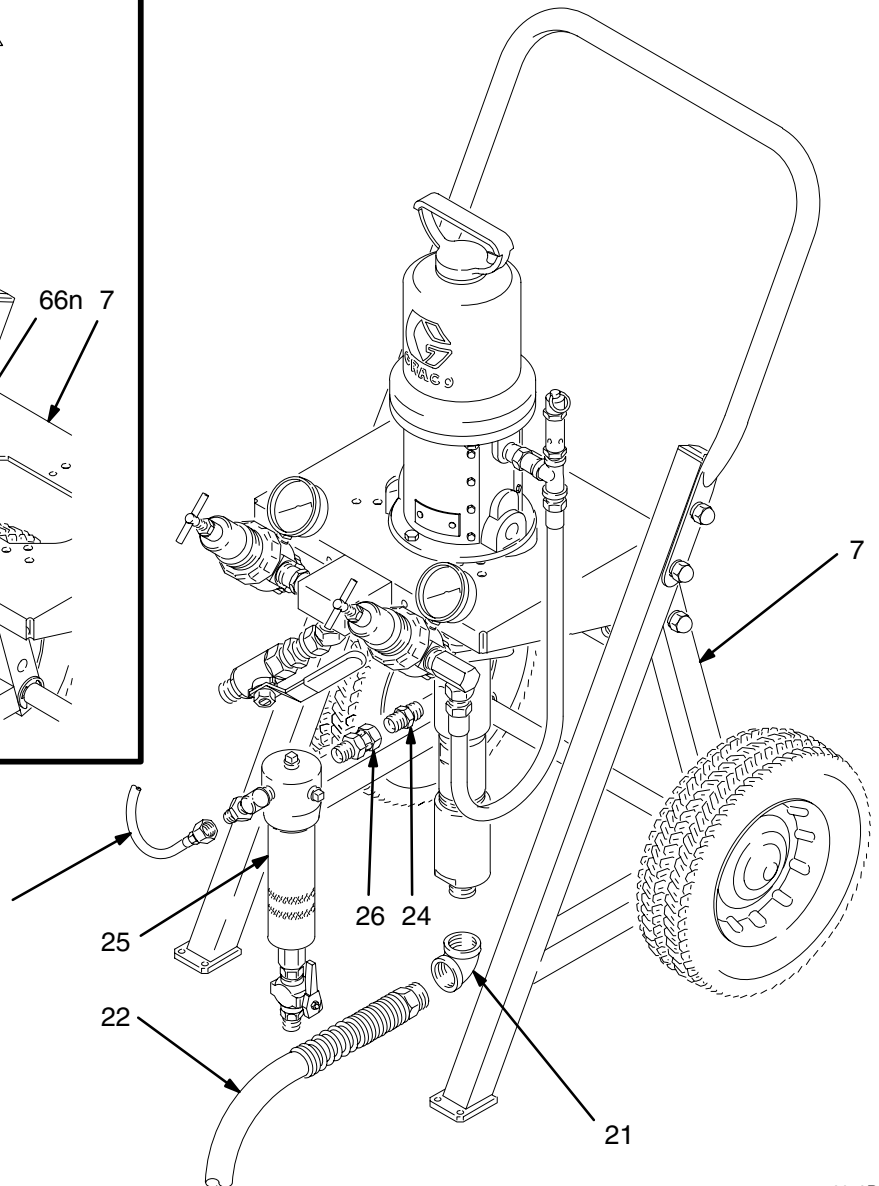

Fig. 3
Assemble the fluid regulation kit (66) as shown in Detail A of Fig. 3. (Refer to the parts list on page 19.) Install the mounting bracket (66k) on the regulator (66f) using the two screws (66p) and lockwashers (66q). Connect the fluid regulator and bracket to the side of the cart (7) using the screw (66l), lockwasher (66m) and nut (66n). Connect the 22" (560 mm) hose (66h) to the outlet of the fluid filter (25).
4. Unscrew the swivel adapter (26) and remove the fluid filter (25) from the pump (5). Remove the adapter from the filter, and remove the 3/8 npt nipple (24) from the pump fluid outlet. See Fig. 3.
1. Unscrew the suction hose (22) from the pump intake elbow (21) and set the hose aside. Remove the elbow (21) from the pump intake and discard. See Fig. 3.